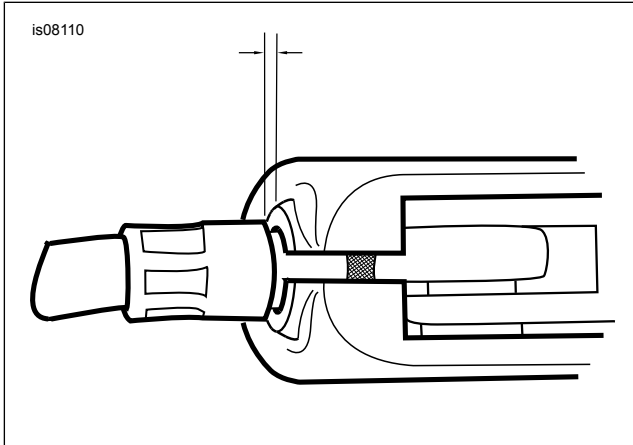

Figure 3. Clutch Cable Adjustment
- e. See Figure 3. Turn cable adjuster away from jam nut until slack is eliminated at hand lever. Pull clutch cable ferrule away from clutch lever bracket to check free play. Turn cable adjuster as necessary to obtain 1/16 to 1/8 inch (1.6-3.2 mm) free play between end of cable ferrule and clutch lever bracket.